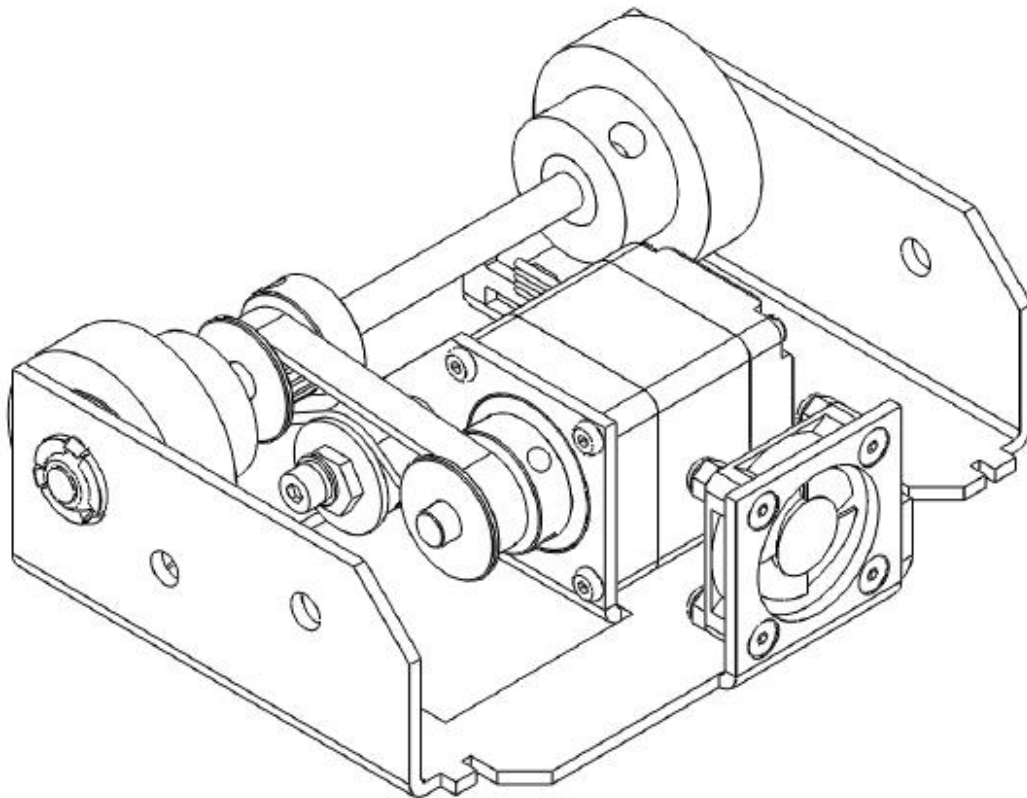

Figure I-12: Belt on Pulley and Eccentric
3. Loop a belt around the drive pulley attached to the motor and over the eccentric idler assembly (Figure I-12).